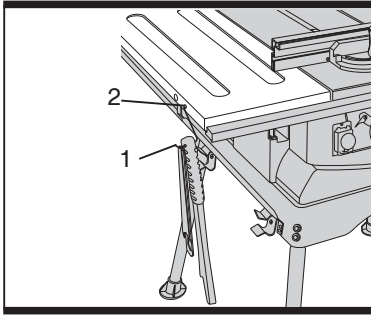

Fig 8
1) Attach the hook (1) into the hole (2) of the side table for push stick and blade spanner storage (See fig. 8).